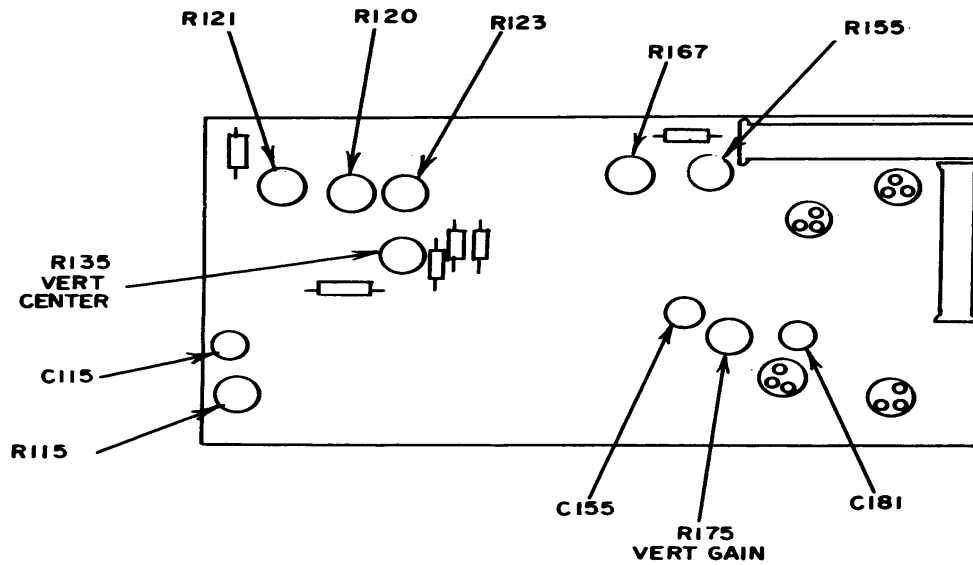
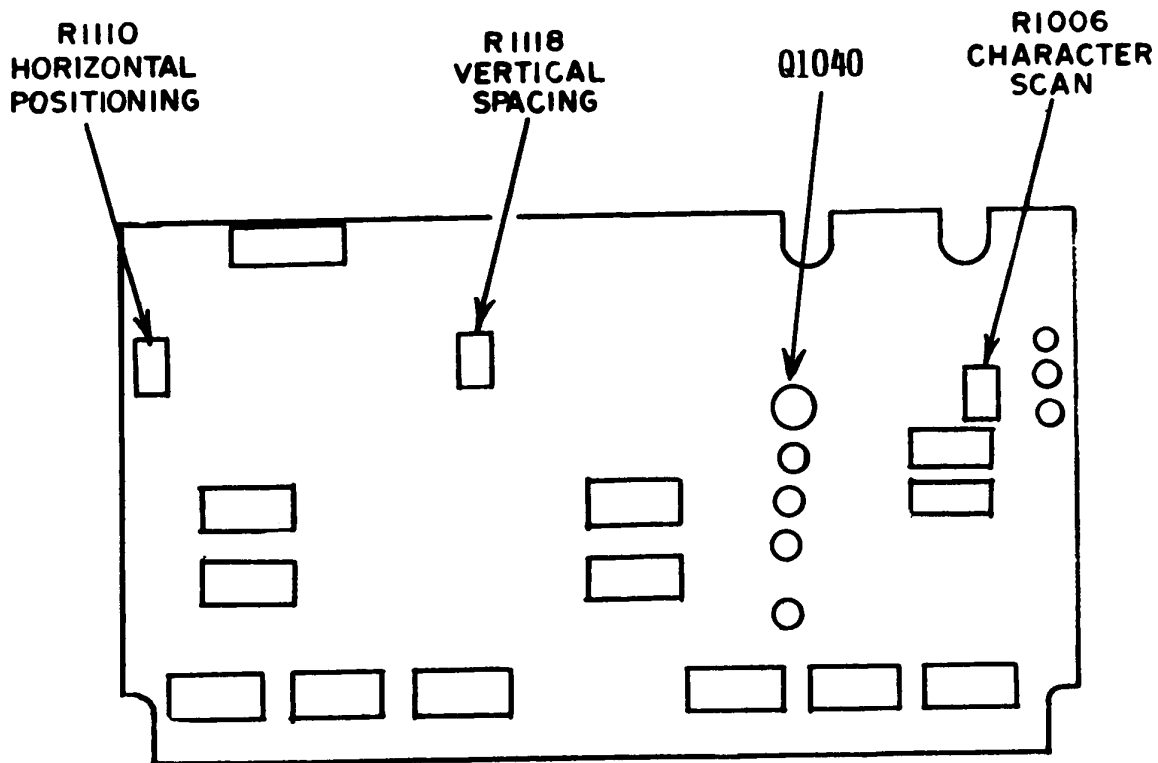

Figure 4. Vertical amplifier circuit board (left side).
Figure 5. Readout circuit board (top).
- (3) Remove vertical amplifier (A6) from TI right compartment and remove time base (A4) from center compartment.
- (4) Install time base in TI right compartment and pull TI POWER switch to on.
- (5) Position calibration fixture controls as listed in (a) through (d) below:
- (6) If trace is not within 0.5 division of the center horizontal graticule line, perform **b** below.
- (7) Press TI POWER switch to off and move calibration fixture from left to center vertical compartment.
- (8) Pull TI POWER switch to on. If trace is not within ± 0.5 division of center horizontal graticule line, repeat (b) below for a compromise between left and center vertical compartments.
b. Adjustments. Adjust VERT CENTER R135 (fig. 4) to position trace to horizontal graticule line.
(4) Adjust calibration fixture POSITION control to align bright center trace of display with TI center horizontal graticule line.
(5) If center seven traces do not coincide within ± 0.1 division of respective horizontal graticule lines, perform **b** below.
(6) Press TI POWER switch to off and remove calibration fixture from left and install in TI center compartment.
(7) Pull TI POWER switch to on and repeat (4) and (5) above and if necessary, repeat b below for optimum gain setting compromise for both vertical compartments.
b. Adjustments. Adjust VERT GAIN R175 (fig. 4) for a 6-division deflection over center seven horizontal graticule lines (R).
(1) Adjust R121 (fig. 4) for optimum flat top on pulse displayed on TI screen.
(2) Set time base MAIN SEC/DIV switch to 1 μ s and adjust R120 (fig. 4) for optimum flat top on displayed pulse.
(3) Set time base MAIN SEC/DIV switch to 0.5 μ s and adjust R123 (fig. 4) for optimum flat top on displayed pulse.
(4) Repeat (1) through (3) above as necessary to obtain optimum flat top on displayed pulse.
(5) Adjust C637 (fig. 1) (main interface board between vertical compartments, serial number B063251 and up), C115, R115, C155, R155, R167, and C181 (fig. 4) for optimum pulse display on TI screen.
(1) Press TI POWER switch to off. Remove calibration fixture (A2) and time base (A4) from TI compartments.
(2) Remove Q1040 (fig. 5).
(1) Adjust VERT CENTER R135 (fig. 4) to position the bottom row of zeros to the middle of the TI screen bottom graticule division. Adjust VERTICAL SPACING R1118 (fig. 5) to position the top row of zeros to the middle of the TI screen top graticule division. Due to interaction, it may be necessary to readjust R135 and R1118 until correct zero location is obtained.
(2) Adjust HORIZONTAL POSITIONING R1110 (fig. 5) until first and last zero of both rows arc within TI graticule.
(3) Adjust CHARACTER SCAN R1006 (fig. 5) for fully scanned zeros without overscanning. Turn TI POWER switch to off, and install transistor Q1040.